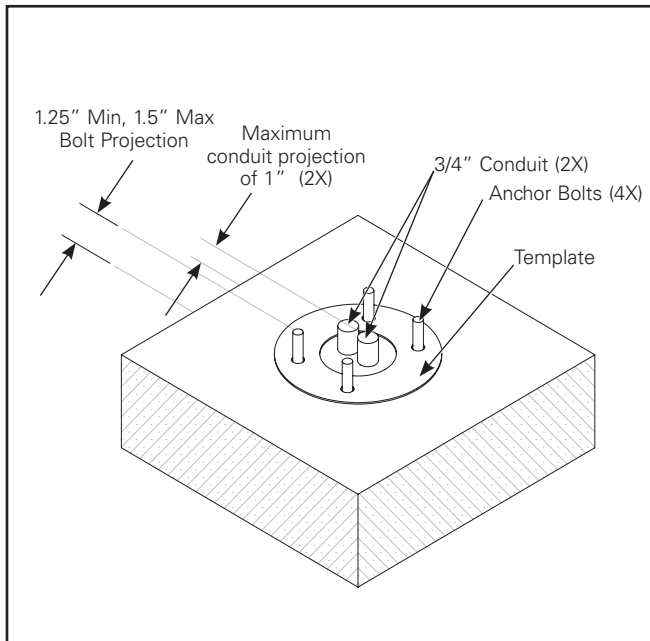

Figure 1.
1. Install foundation anchors and conduit(s) using supplied anchor templates as illustrated. (Figure 1)